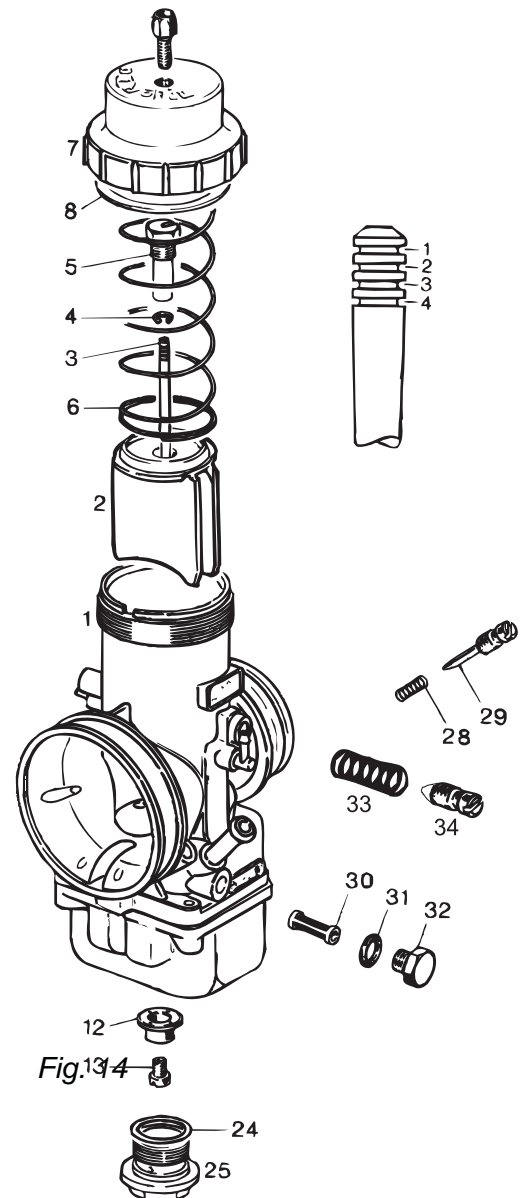

Fig. 14
➔ Install the main jet cup (12) in position as depicted in figure 14 and fit the corresponding main jet (see Table 1A resp. 1B).